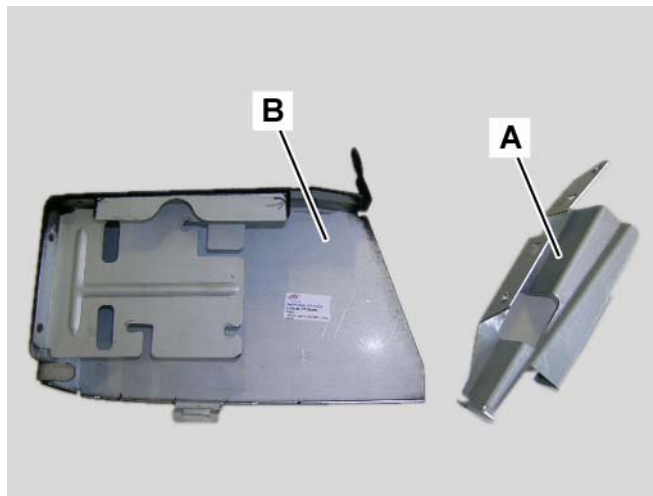
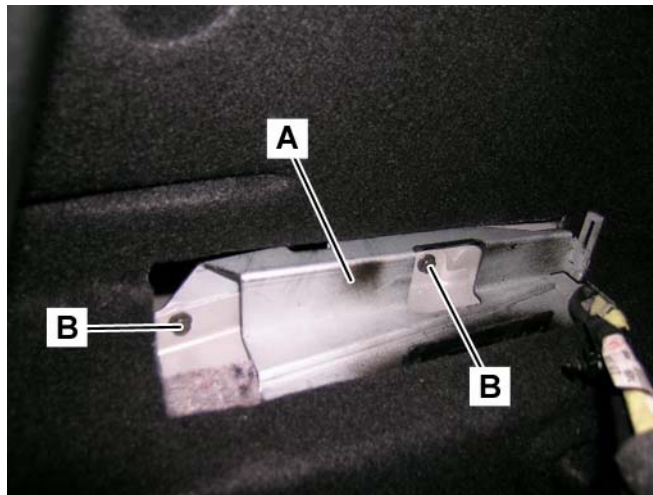

Figure 9
Figure 10
4. The SDARS bracket assembly consists of two parts (A and B, Figure 9).
5. Mount the part A of the SDARS bracket (A, Figure 9 and A, Figure 10) over the body paneling with the two provided screws M5 (B, Figure 10).